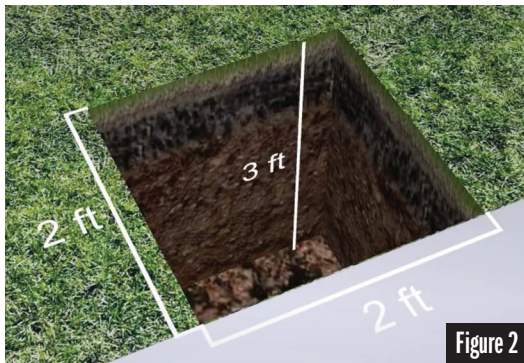

Figure 2
STEP 3: Remove the frame and dig a square hole to the appropriate depth and dimensions shown in Figure 2.